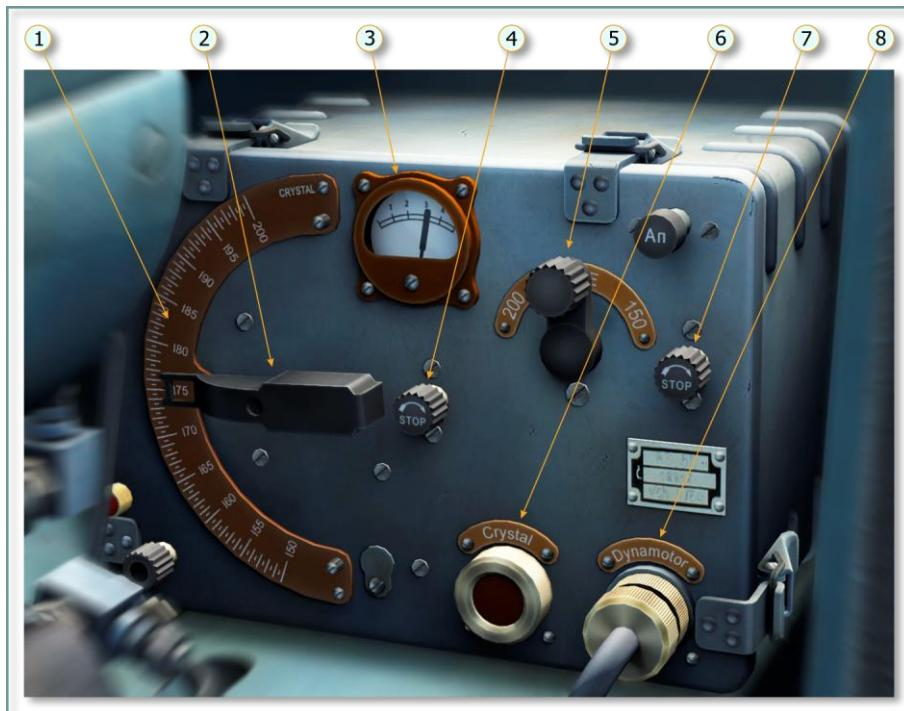

Figure 6.3. RSI-6K transmitter control elements located on the front panel
The front panel of the transmitter (Figure 6.3) consists of several controls responsible for setting contour frequency, antenna tuning and tuning check:
In the simulation, it is possible to simultaneously tune the RSI-6M1 receiver and the RSI-6K transmitter to the same frequency. This can be done by tuning the wave number (frequency) from the remote control panel (RCP). Rotation of channel/wave number selector knob (1) on the receiver RCP simultaneously rotates the knobs (2) and (5) Figure 6.3 on transmitter.